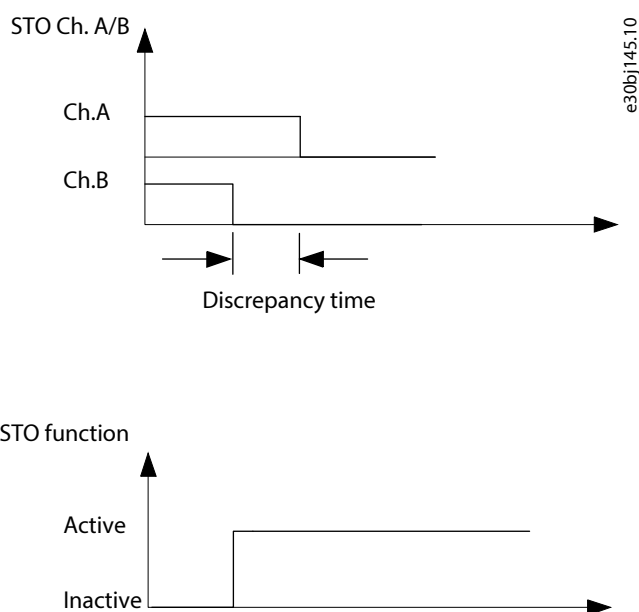

Figure 2: Discrepancy Time
- **Galvanic isolation of terminals:** The functional safety I/O terminal blocks on the control board (X31, X32) have separate, galvanically isolated inputs to allow, for example, interchanging of the polarities of the STO input terminals as shown in Figure 1 and Figure 2.